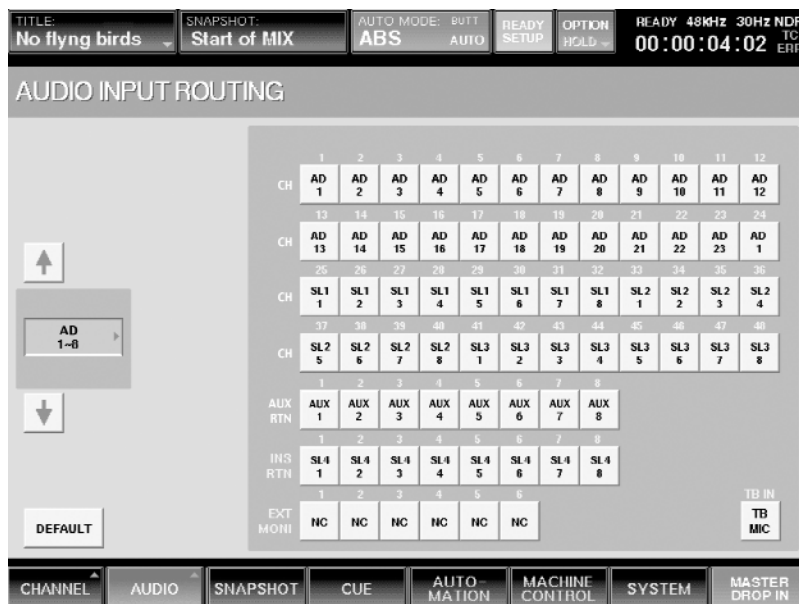

Figure 16
- 4 To complete the patching, press a Channel button at the right of the screen to assign the selected input to that channel. For example, press the AD 1 input, and then press Channel 24. The signal connected to the first head amp will now appear on input channel 24. (See Figure 16)